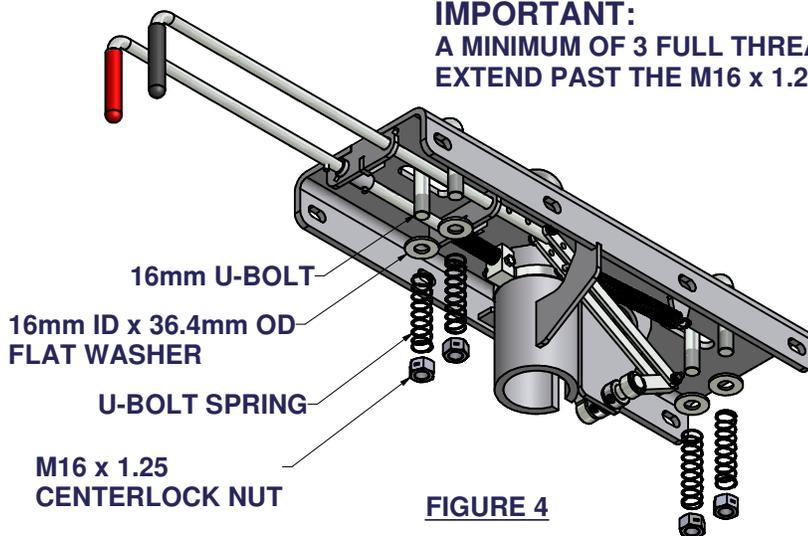

FIGURE 4
- 3) SEE FIGURE 4 FOR CORRECT INSTALLATION OF THE SAFETY CHAIN U-BOLTS AND THEIR HARDWARE.